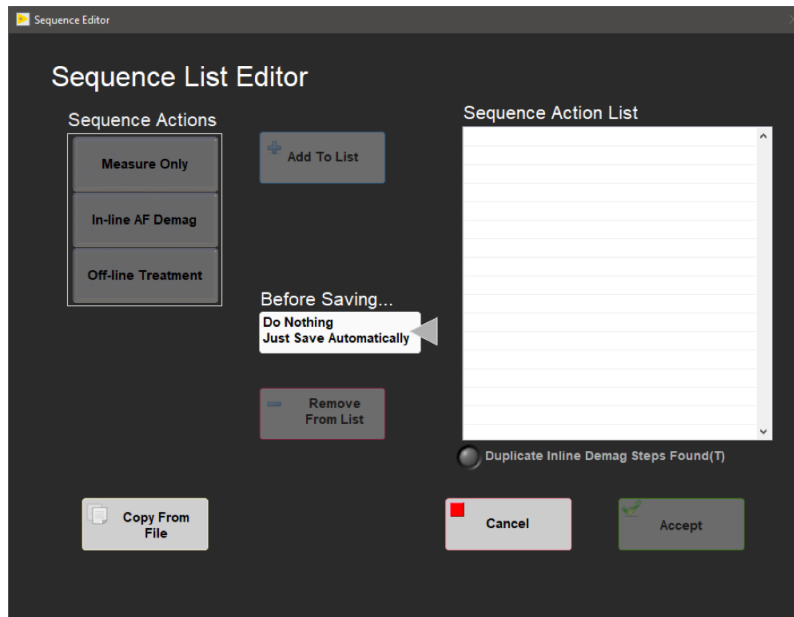

Figure 8. Sequence Editor window.
1. To create a new measurement sequence, select **DAQ>Sequence Editor** (Figure 8).